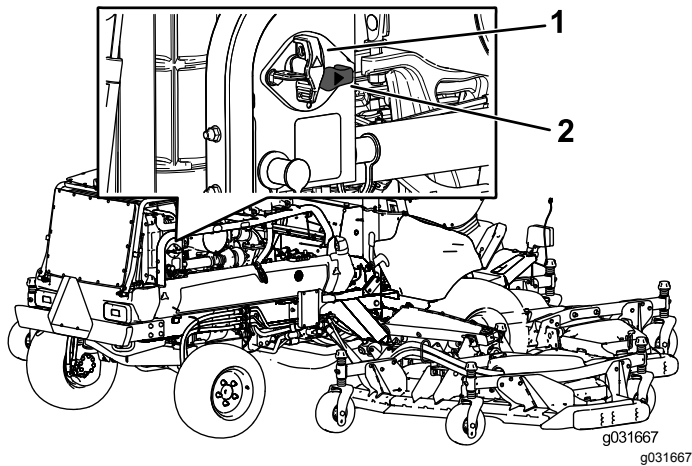

Figure 71
- To energize the machine electrically, rotate the battery-disconnect switch clockwise to the ON position (Figure 71).
- To de-energize the machine electrically, rotate the battery-disconnect switch counterclockwise to the OFF position (Figure 71).